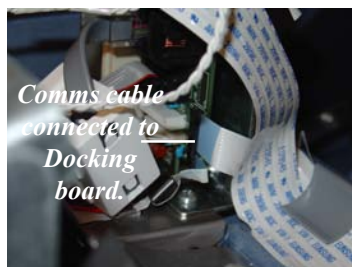

Figure 17. Comms cable connected.
13. Connect the other end of the SPED Comms cable to the Docking board assembly (Figure 17). **Note: Ensure this cable is seated firmly/correctly at both ends!**